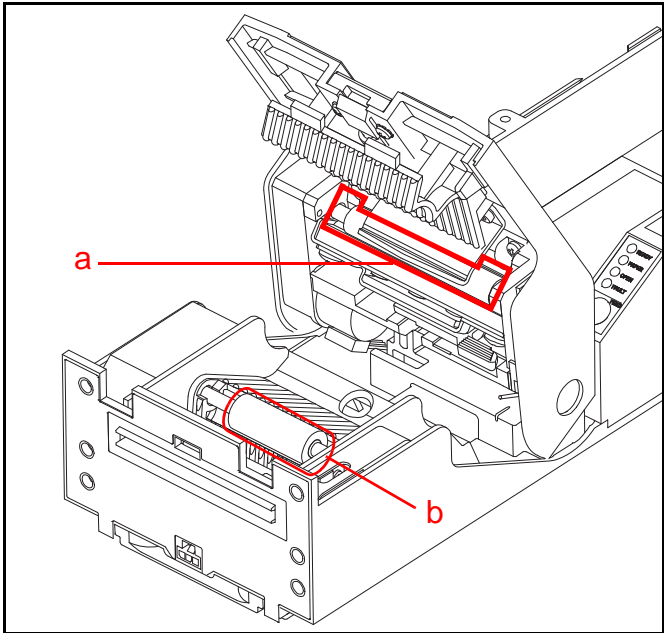

Figure 15 Platen Roller/Feed Roller
- Use a Cleaning Wipe to wipe and clean the Platen Roller (Figure 15 a). Rotate the Roller to clean the Roller's entire circumference.
- Use a Cleaning Wipe to wipe and clean the Feed Roller (Figure 15 b).